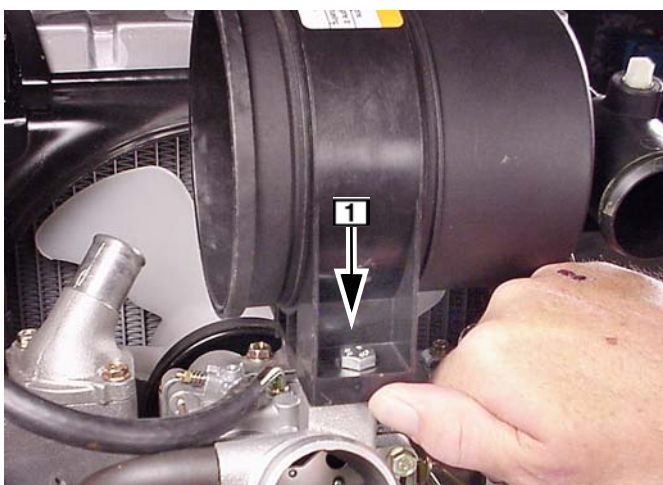

Fig. 179
5. Push on rear mounting bracket to eliminate any slack in mounting bracket. Hold in this position, Fig. 179. Torque rear screw to **90 in. lbs. (10 Nm)**.